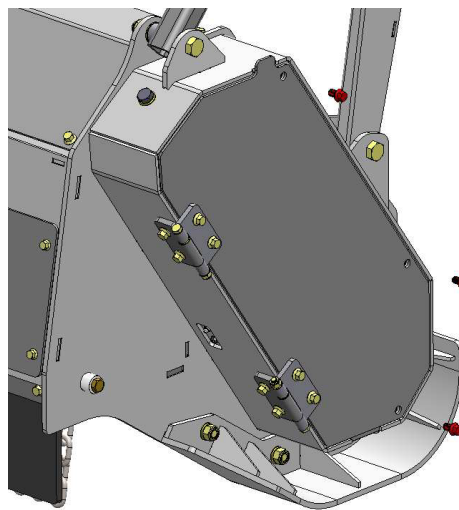

Figure 14
The 79" model has three (3) bolts with the hinged door. See Figure 14.